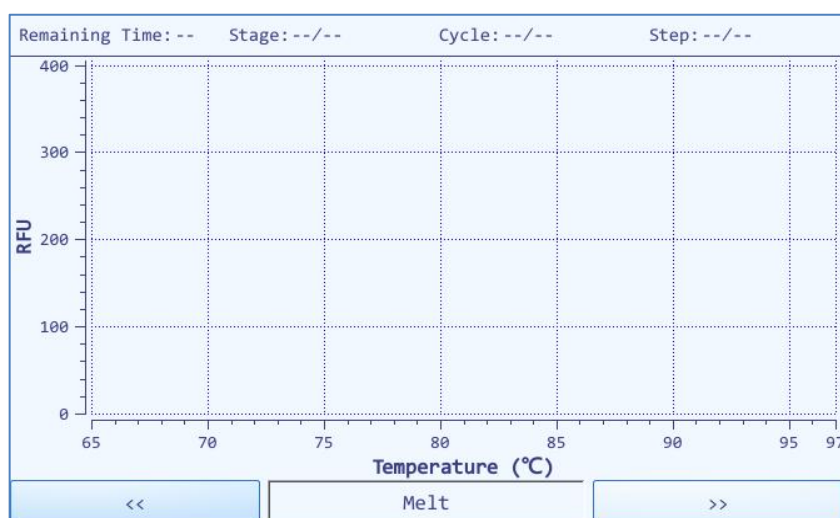

Figure E-5.2. Run Monitoring Diagram - Real-time Melting Curve
- b. User can press  key below the run monitoring diagram to monitor the real-time **Melting** curve of the current experiment, as shown in figure E-5.2.